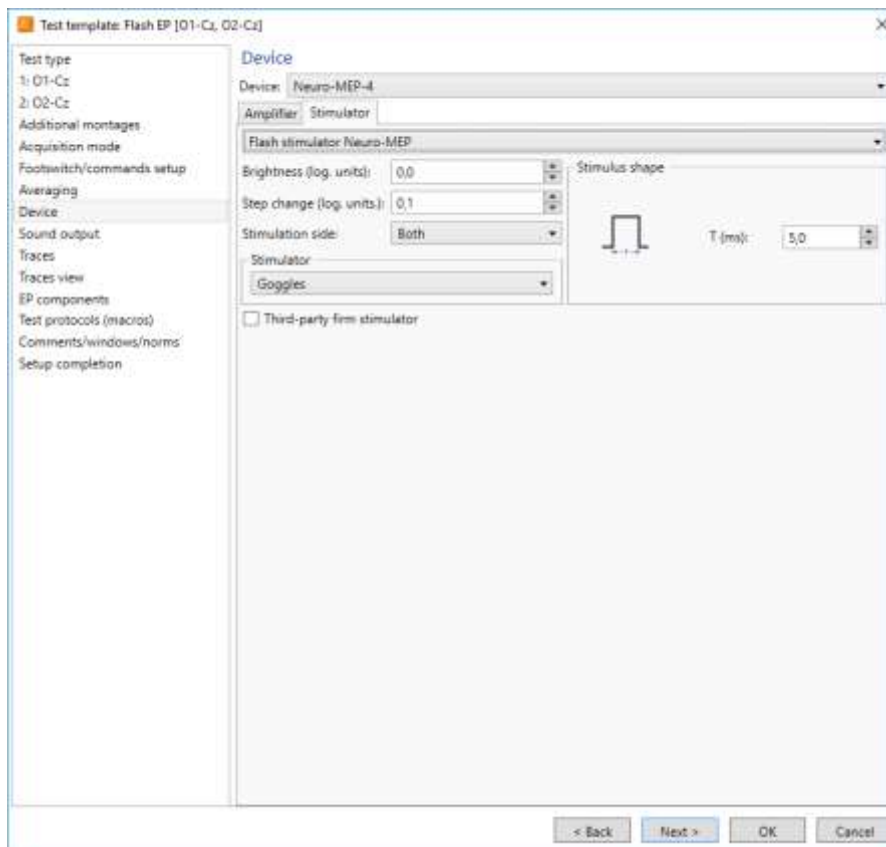

Fig. 8. The acquisition start window from external stimulator.
3. Run the *Neuro-MEP.NET* software, execute the *Setup/Tests templates/Setup* menu command, select the required test template, press the *Change* button and select the *Third-party firm stimulator* check box on the *Hardware/Stimulator* page (Fig. 8). This step should be executed once for each template where the external stimulator is planned to be used. If you do not want to change the template, create the test and select the similar settings in it.
The *Third-party firm stimulator* check box (Fig. 8) is NOT checked!